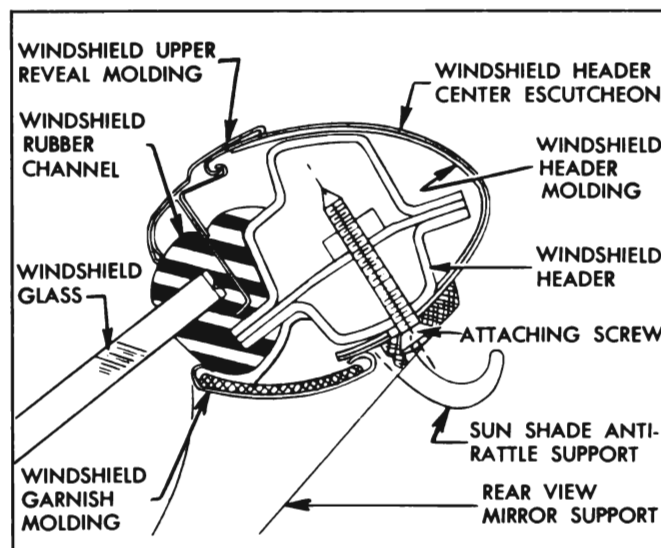

Figure 13-171—Windshield Header
8. Remove windshield header moldings, right and left, by disengaging front edges of moldings from windshield reveal molding. See figure 13-171.